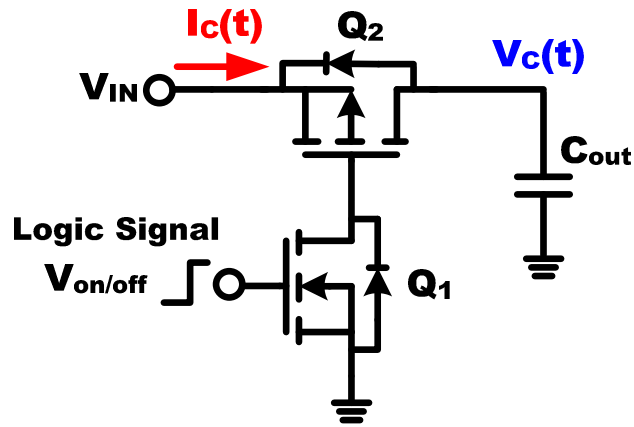
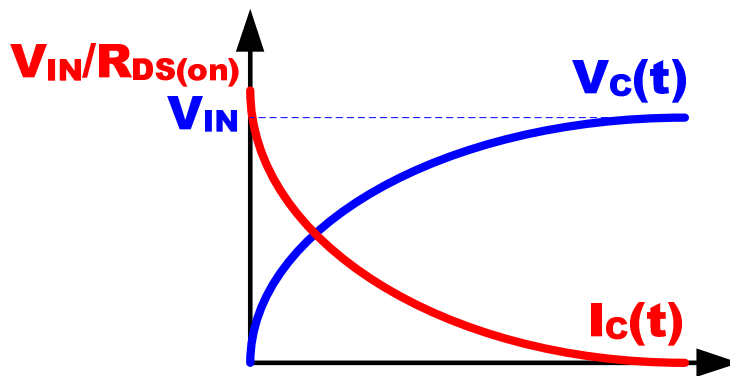

Fig. 3. The current direction.
Fig. 4. The capacitor voltage and current waveform
The load switch circuits regarded as energy transformation. Energy transforms from a voltage source via MOSFET to a load capacitor. In the MOSFET design, the destruction can happen due to thermal overstress; the destruction is not because the current can not be handled, but the temperature of MOSFET exceeds the limitation. The current direction shows in Fig. 3, and the capacitor voltage and current waveform shows in Fig. 4. The formula (2) is the capacitor voltage, and the formula (3) is the capacitor current.